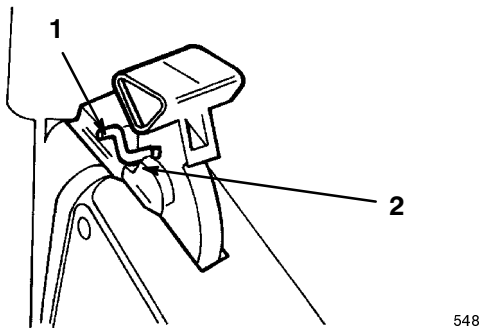

Figure 18
4. Pull the handle rearward until the handle latch locks in the notch in the bag door latch (Fig. 18).
Note: In Figure 18, the brush guard is not shown for the purpose of clarity.